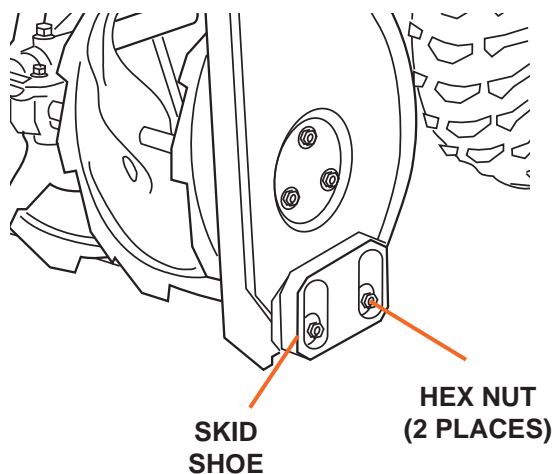

Figure 6
1. Position the skid shoes based on surface conditions. Adjust upward for hard-packed snow. Adjust downward when operating on gravel or crushed rock surfaces. Loosen the two hex nuts that retain the skid shoe in place and move up or down as desired, then retighten the lock nuts (see Figure 6). Repeat for the opposite side of the snow blower.